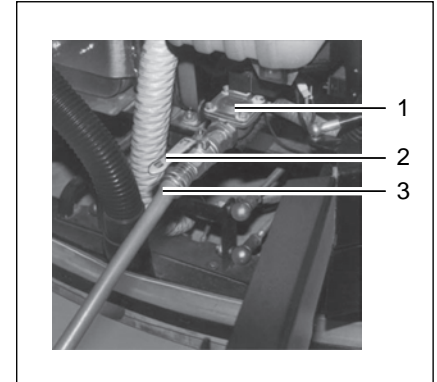

Fig. 30
2. Connect a filling hose (Fig. 30/3) with a connection diameter of 0.7 in (3/4 inch).
3. Open the ball cock (Fig. 30/2).
4. Press the button for the solenoid valve (Fig. 30/1). This is located under the suction turbine.
The button for the solenoid valve (Fig. 30/1) can also be actuated when the key switch is switched off.
7. Close the ball cock (Fig. 30/2).
8. Disconnect the filling hose (Fig. 30/3).